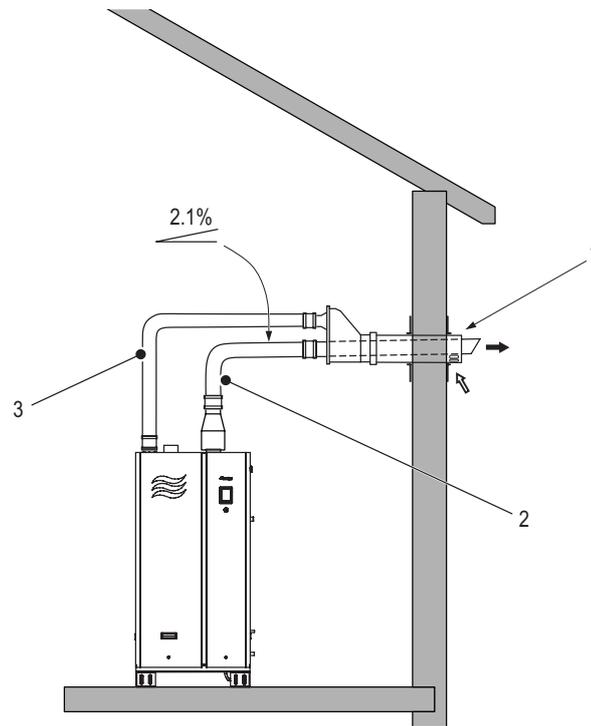
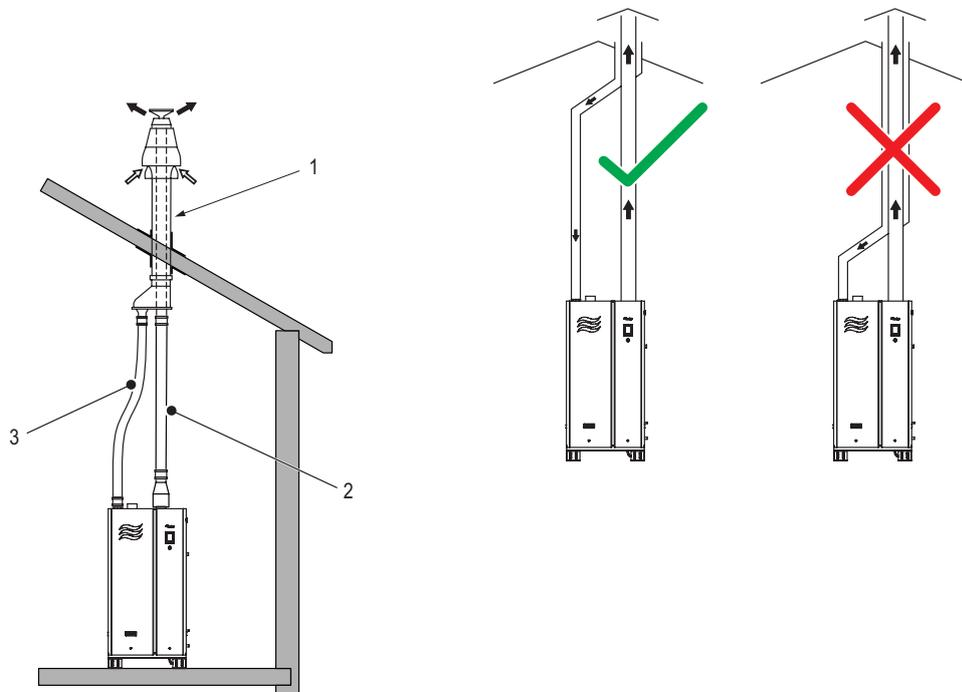
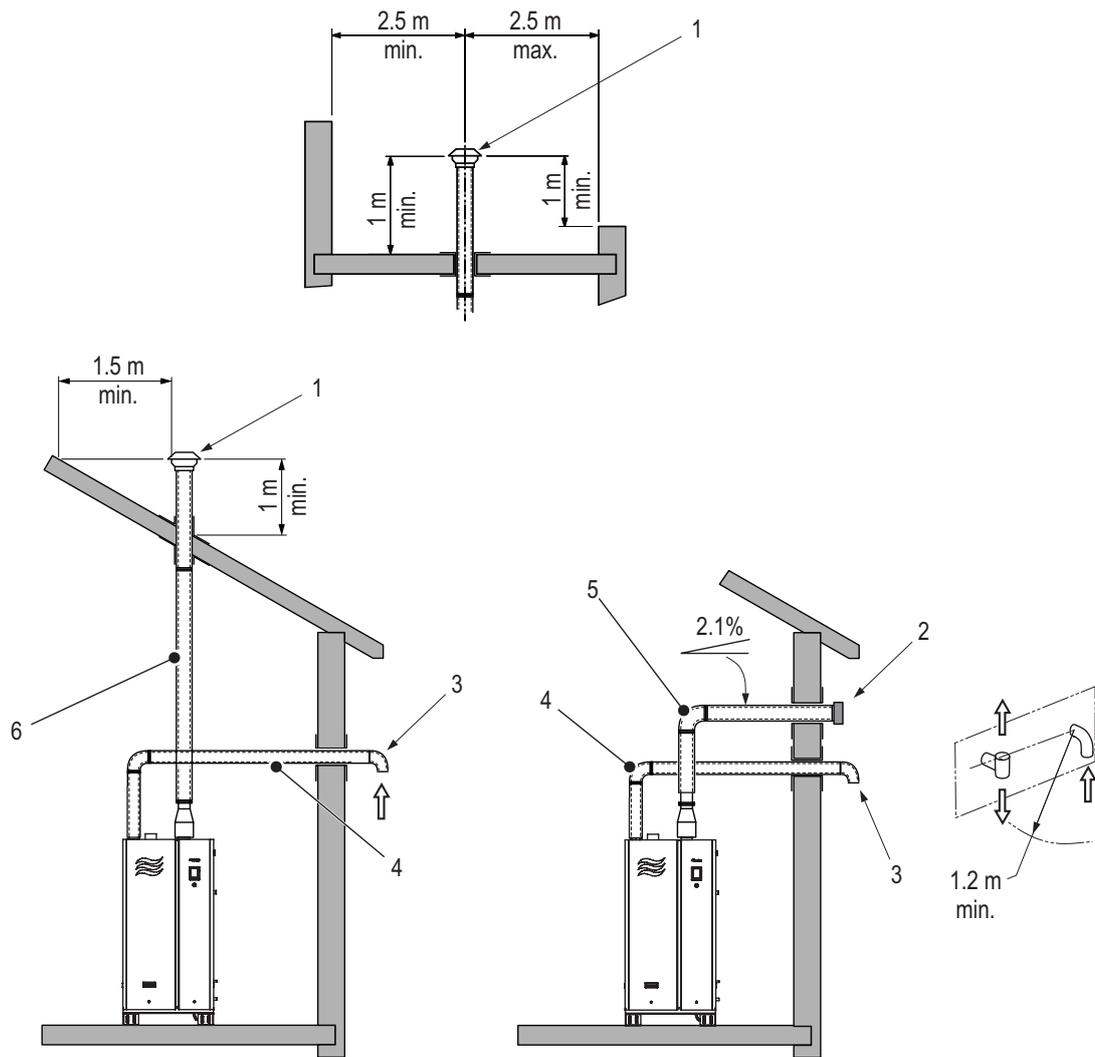
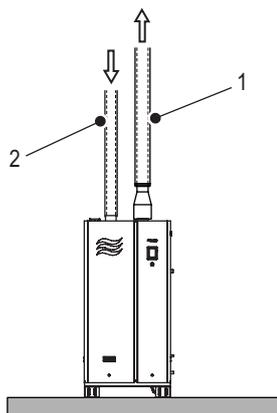

Figure 18: Type C13 Exhaust Venting for Room Seal Installations
Figure 19: Type C33 Exhaust Venting for Room Seal Installations
Figure 20: Type C53 Exhaust Venting for Room Seal Installations
Figure 21: Type C6 Exhaust Venting for Room Seal Installations
Figure 18 shows the room seal intake vent connection for the compact and full-size Condair GS humidifiers.
- An intake (elbow) terminal must be installed on the outside termination of the air intake vent, with the elbow facing down – refer to Figure 18 on page 38. The air intake terminal and exhaust vent terminal must be located on an exterior surface. The location and spacing between the terminals must comply with all local and national regulations, with at least a minimum spacing of 1 m between them.
Figure 18, Figure 19 on page 44, Figure 20 on page 45, and Figure 21 on page 48 show the general types of venting arrangements that can be used with the Condair GS humidifier. These are guidelines only. Adhere to all national and local regulations.
- Connect the exhaust vent to the exhaust outlet in the humidifier as described in “Exhaust Vent Installation” on page 49. Refer also to Figure 21 on page 48.
- Connect the intake vent to the air intake inlet in the humidifier as described in “Room Seal Installation” on page 40. Refer also to Figure 21 on page 48.